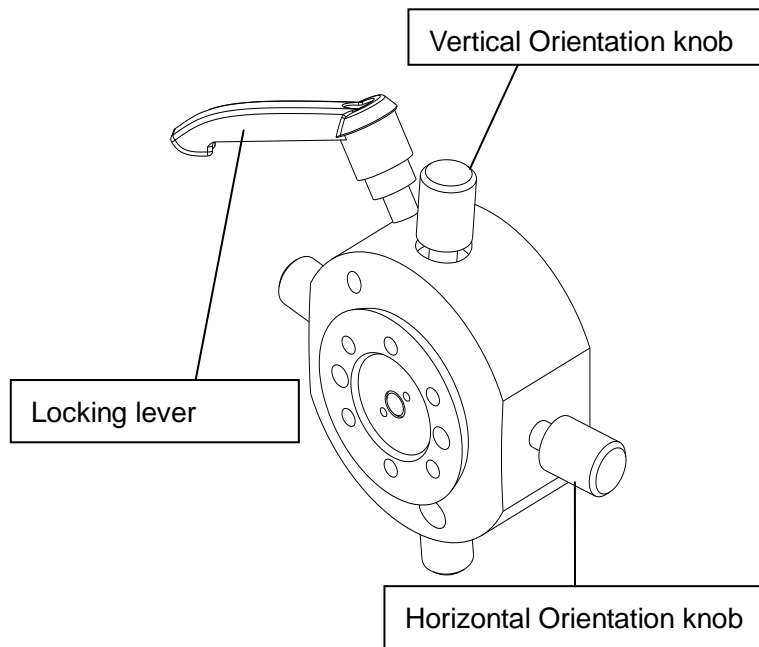

Fig 3
- Turning the locking lever (Fig 3) to set the specimen holder to the adjustable release condition and section lock status.